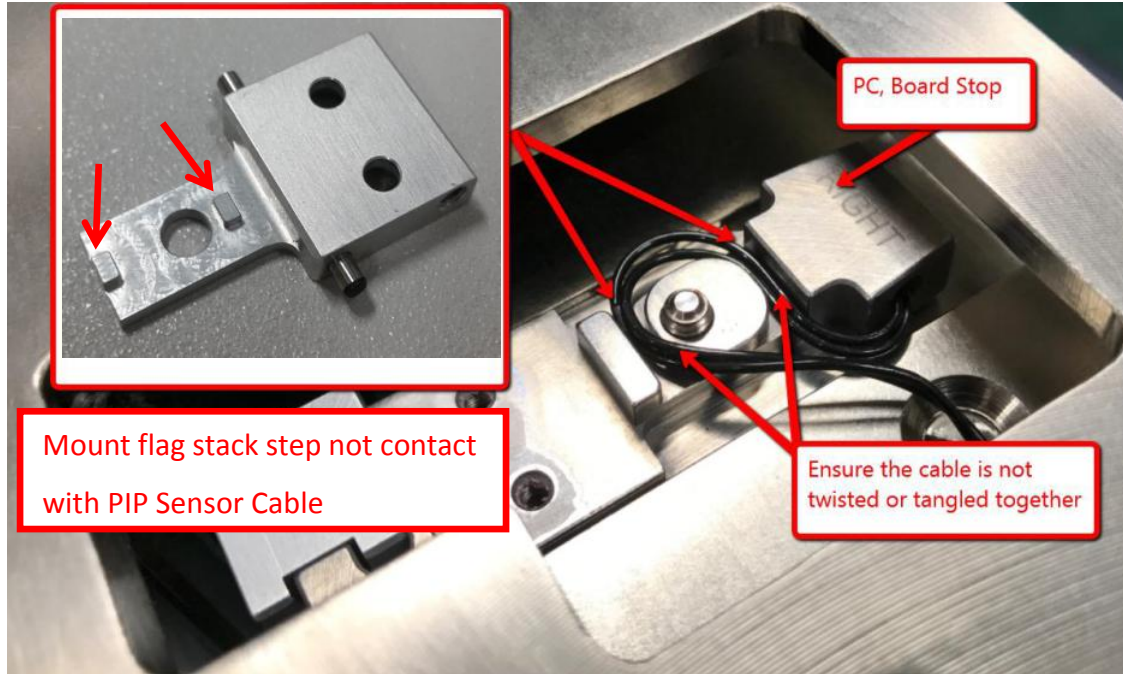

Figure 7 Flag Mount Installation
6. Assemble mount flag on the PC, Board Stop as Figure 7 by refer to below criteria.